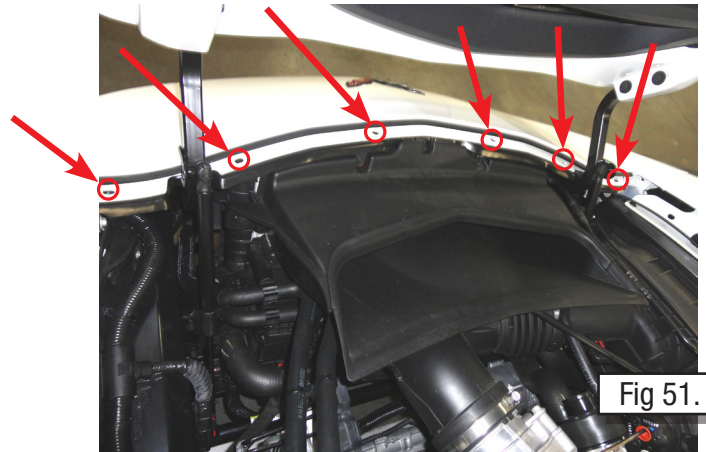

Fig 51.
58. Install the four T-30 Torx bolts and also the two plastic clips holding the nose to the radiator support (Fig. 51).